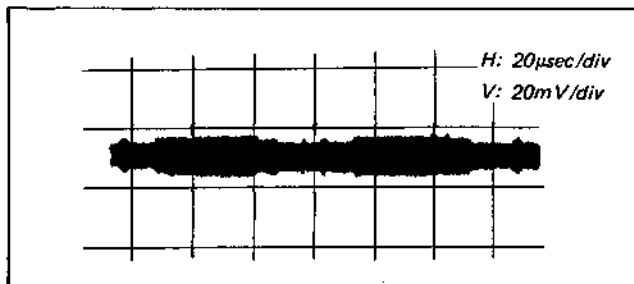

Fig. 4-4-22. Comb filter adjustment
- (3) Connect the oscilloscope to TP21 (junction of R191 and R192).
- (4) Adjust LV1 and RV19 alternately for minimum level of the chroma signal. (See Fig. 4-4-22.)